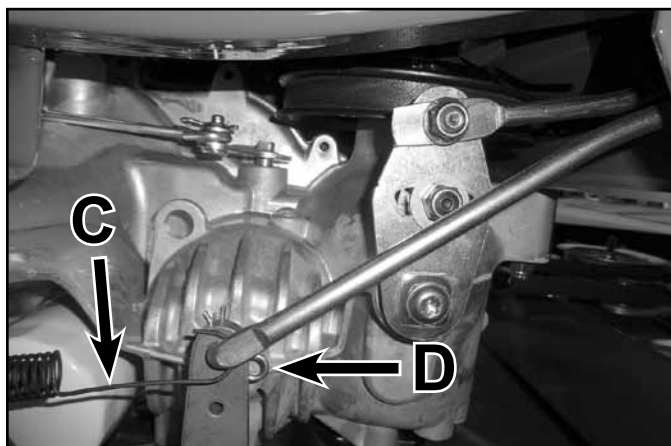

Fig. 045
1. Position the brake bell crank (H) into the frame pivot holes.
2. Install the pivot bushings (G), washers and cotter pins to secure the bell crank into the frame.
3. Install the (3) linkage rods to the bell crank and install retaining washers and clips.
4. Install the brake return spring (C) (Fig. 045 and 046).